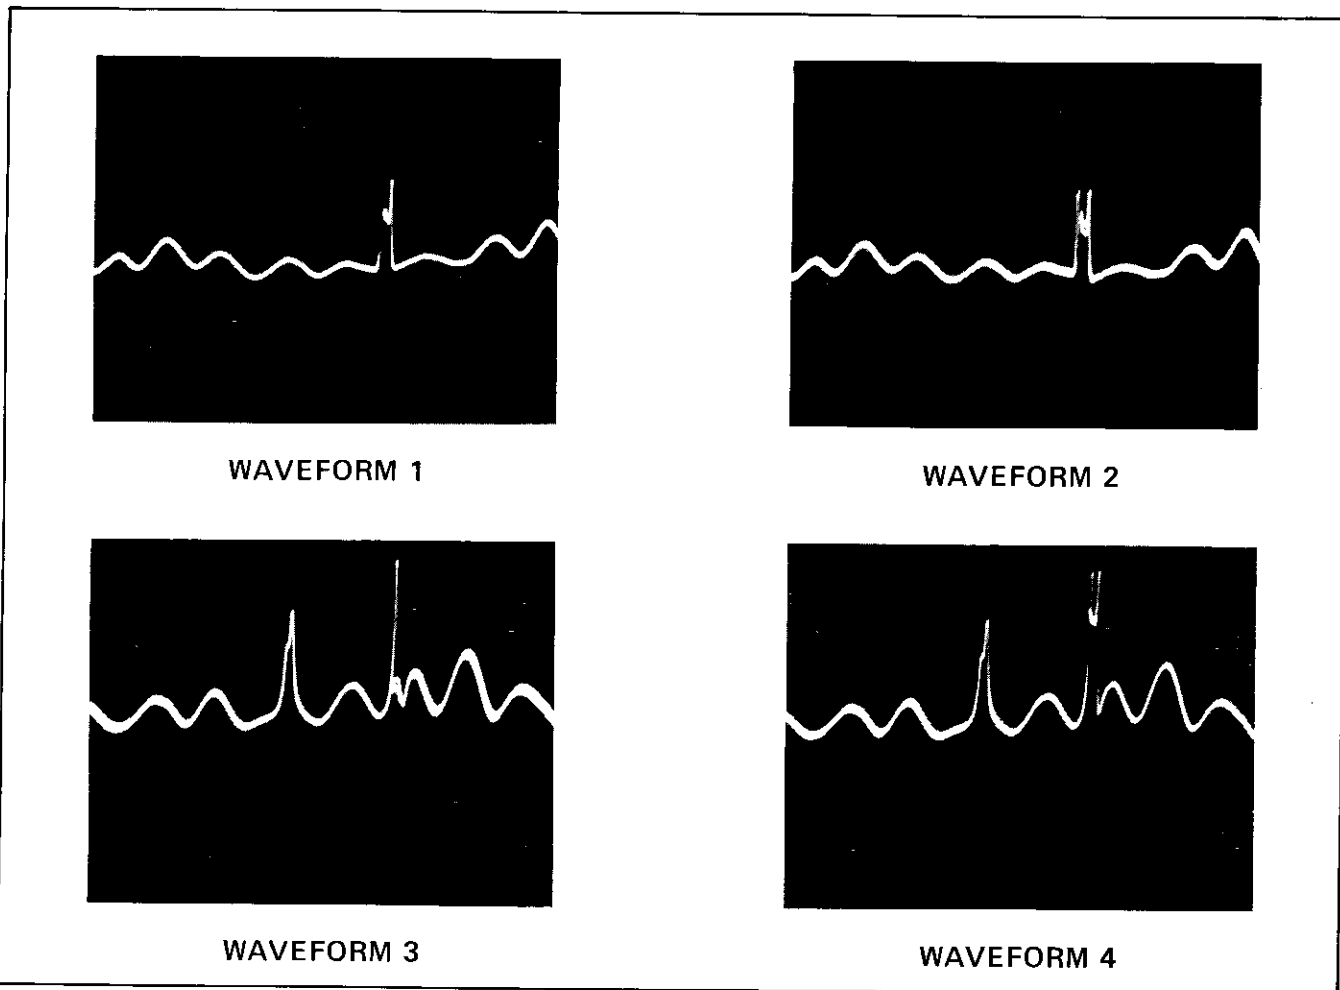

Figure 5-19. Band Switch Overlap Adjustment Waveforms
- e. Adjust A6 LO control A6R2 so that display appears as shown in Figure 5-19, Waveform 1.
- f. Adjust A5 BAND 1 HI control A5R22 so that display appears as shown in Figure 5-19, Waveform 2.
- n. Adjust A6 HI control A6R6 so that display appears as shown in Figure 5-19, Waveform 3.
- o. Adjust A5 BAND 3 B control so that display appears as shown in Figure 5-19, Waveform 4. Some iteration may be necessary due to interaction of controls.